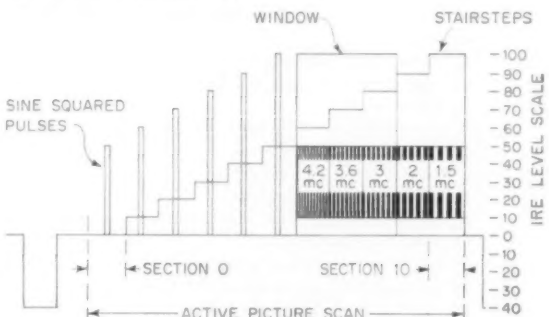

Fig. 4. Composite waveform. Waveforms shown at line rate sweeps.
- 2.2 The waveform of the composite signal shall appear as shown in Fig. 4.